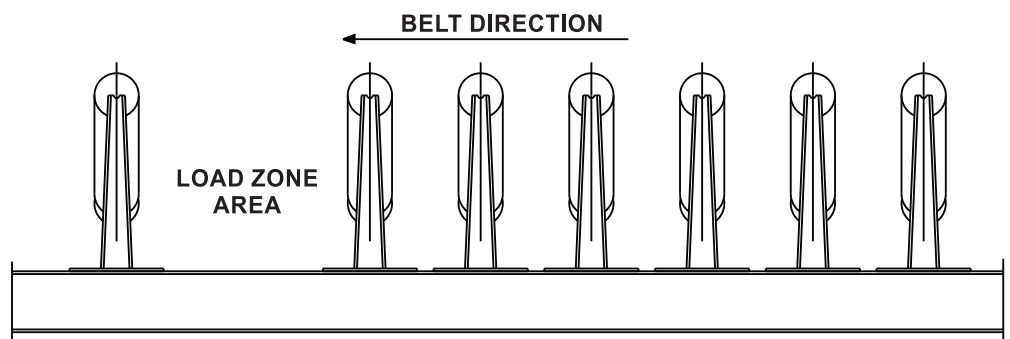

Figure 1.
- 2.) Measure approximately 8" from the side of the troughing roller which will be just before the Impact Bed. This will be the center line of the first support frame. (See Fig. 1)